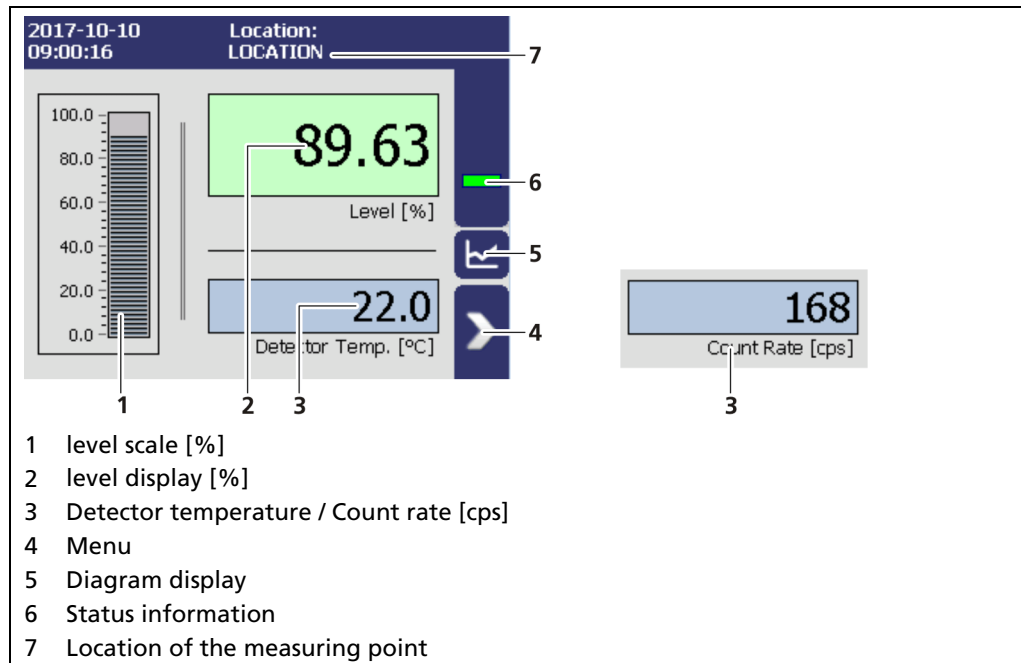
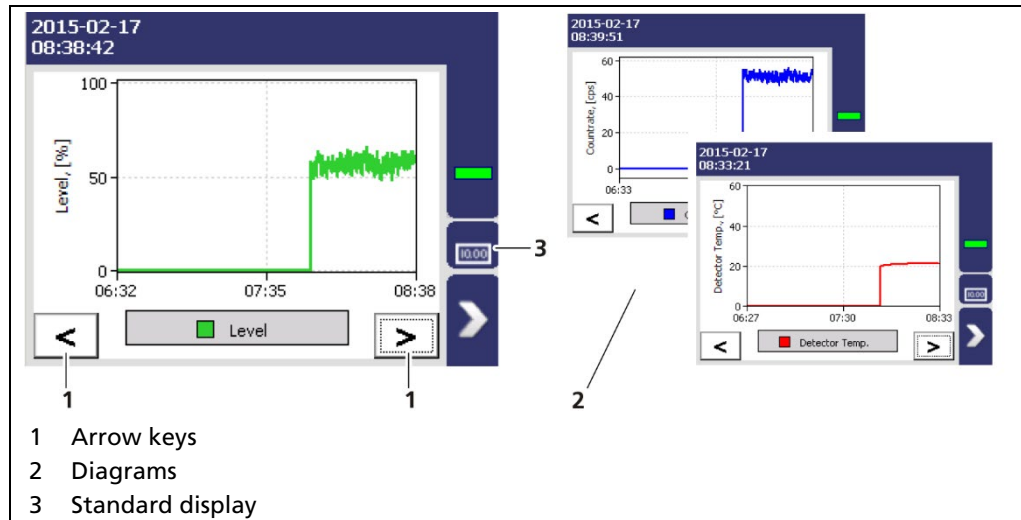
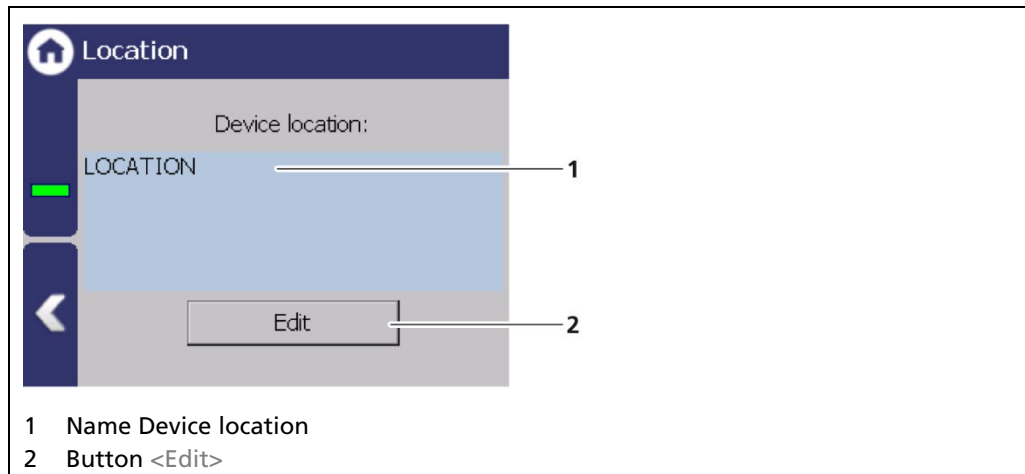

Fig. 25 Standard display of the EVU
Fig. 27 Diagram display of the EVU
Fig. 33 Device location
Clicking the diagram symbol (Fig. 25, item 5) changes the view to the diagram display. The arrow keys (Fig. 27, item 1) are used to switch between the diagrams Level– Count Rate – Detector Temperature.
Clicking the display symbol (Fig. 27, item 3) changes the view to the standard display.
The location of the evaluation unit is displayed (Fig. 33, item 1) in the Location menu. The name can only be edited (7.2 Menu Access) in the access level "Standard". The Location is displayed on the EVU standard display (Fig. 25, item 7).